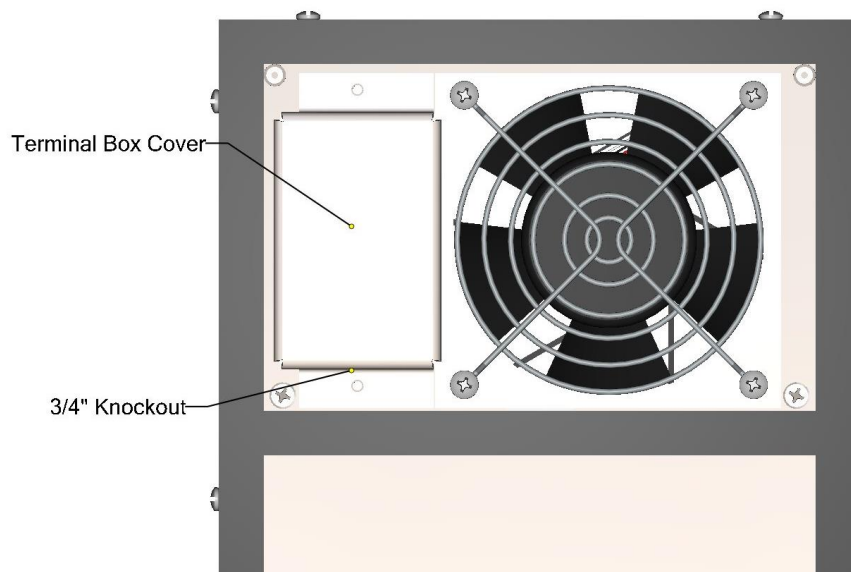

Figure 3: Terminal Cover
3. Remove the (2) terminal box cover screws and remove the cover. (See *Figure 3: Terminal Cover*). The terminal block will be used for power. (See *Figure 4: Terminal Block*)
4. Remove Dome Plug and route power cable through the 0.875" (22.23mm) hole. (See *Figure 3: Terminal*) Use an approved strain relief to secure wires.